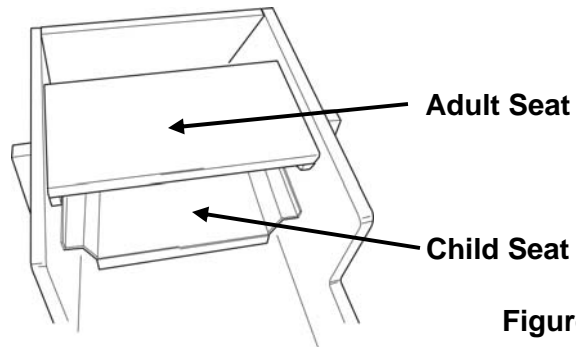

Figure 4
4. The GATC Gondola Riding Car has two seating positions: Adult and Child (for children fifteen (15) years of age and under). To set the Gondola Riding Car for Child seating, simply remove the Adult Seat by lifting it up and out, thus exposing the Child Seat (See Figure 4).
5. The Child Seats are equipped with Seatbelts and all children fifteen (15) years of age or under should wear them.